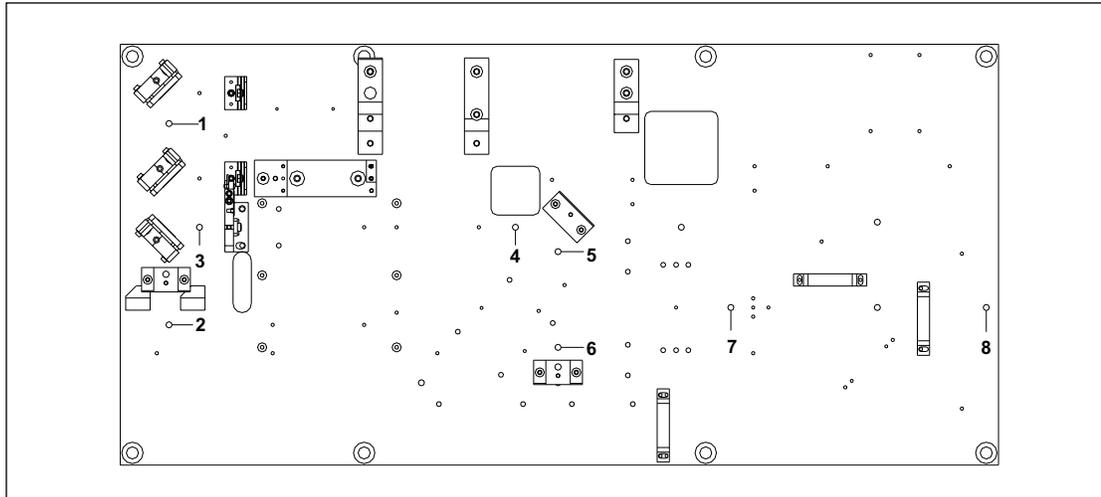

Figure 8-5. Alignment Tool Positions.
For these alignment procedures, use the tool positions illustrated in figure 8-5. When using the alignment pinholes, use the one closest to the mirror to adjust for position and the one farthest away to adjust for tilt. Twist the pinhole until the beam is cleanly passing through it before assessing the beam's position at the pinhole. For consistency when installing mirror mounts and their bases, always push the mount away from the beam direction when tightening the mounting screws.
1. Align the blue beam through the two alignment pinholes placed at locations 1 and 2 (figure 8-5).
2. Adjust the second turning mirror so that the blue beam passes through the alignment pinholes at locations 3 and 4 (figure 8-5). Adjust the height of the beam at the second pinhole (just before the third turning mirror).
2. Install a mirror behind location 6 (figure 8-5) and reflect the beam back on itself.
1. Align the blue beam through the alignment pinholes at locations 5 and 6 (figure 8-5).
8. Adjust the blue primary beamsplitter to send the blue beam through the two alignment pinholes at locations 7 and 8 (figure 8-5). Be careful not to push on the mount while turning the adjustment screws.